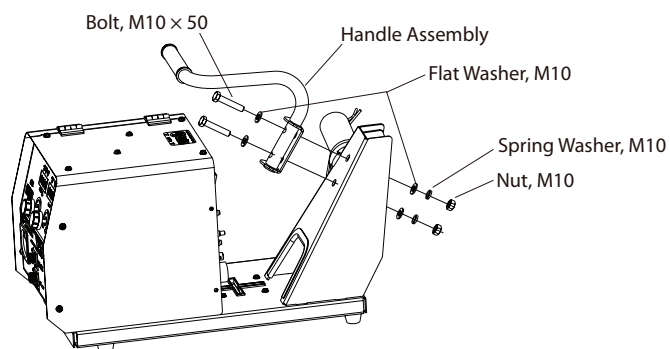

Figure 3-8 Installing Handle Assembly
Secure the handle assembly to the base assembly with M10 x 50 Bolts, M10 Flat Washers, M10 Spring Washers and M10 Nuts as shown in Figure 3-8.
1. Loosen the M10 x 50 Bolts, M10 Flat Washers, M10 Spring Washers and M10 Nuts with 17mm wrench that secure the handle assembly and remove the handle assembly and fixings from the base assembly. Refer to Figure 3-8.